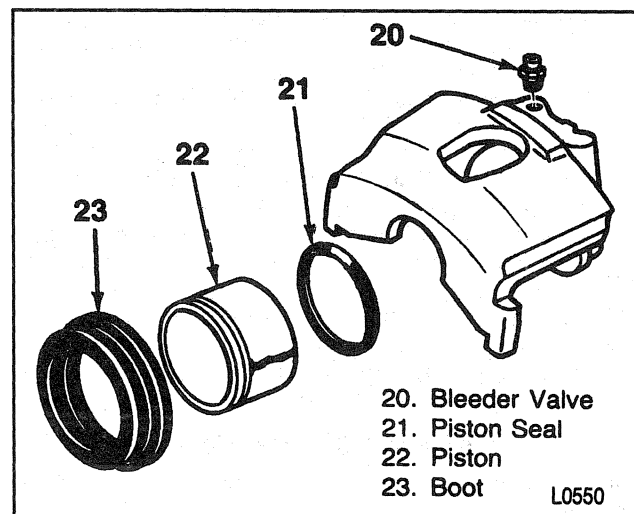

Figure 14—Caliper Components
Remove or Disconnect (Figures 14 through 16)
3. Piston (22) (Figure 14).
5. Piston seal (21) (Figure 14).
6. Bleeder valve (20) (Figure 14).
Install or Connect (Figures 14 and 17)
2. Piston seal (21) (Figure 14).
7. Bleeder valve (20) (Figure 14).